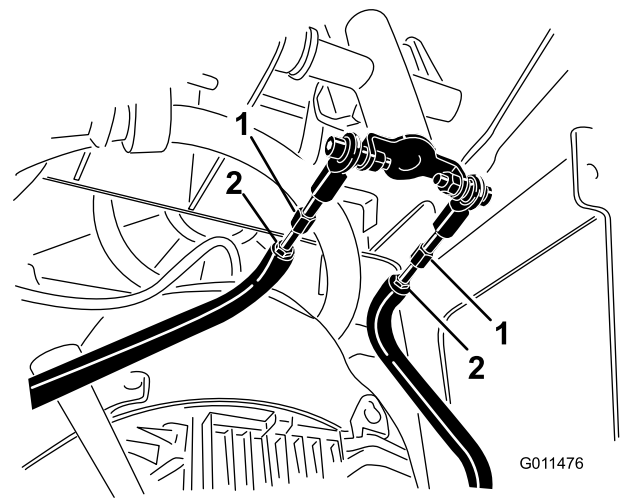

Figure 57
- D. Loosen the jam nuts on the traction rods, under the control panel (Figure 57).